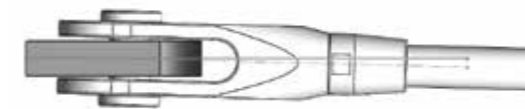

Fig 1. Fork alignment max 0.5°
- When installed, DST520 tension bars and compression struts must be within 0.5° alignment from the plane (Fig. 1).